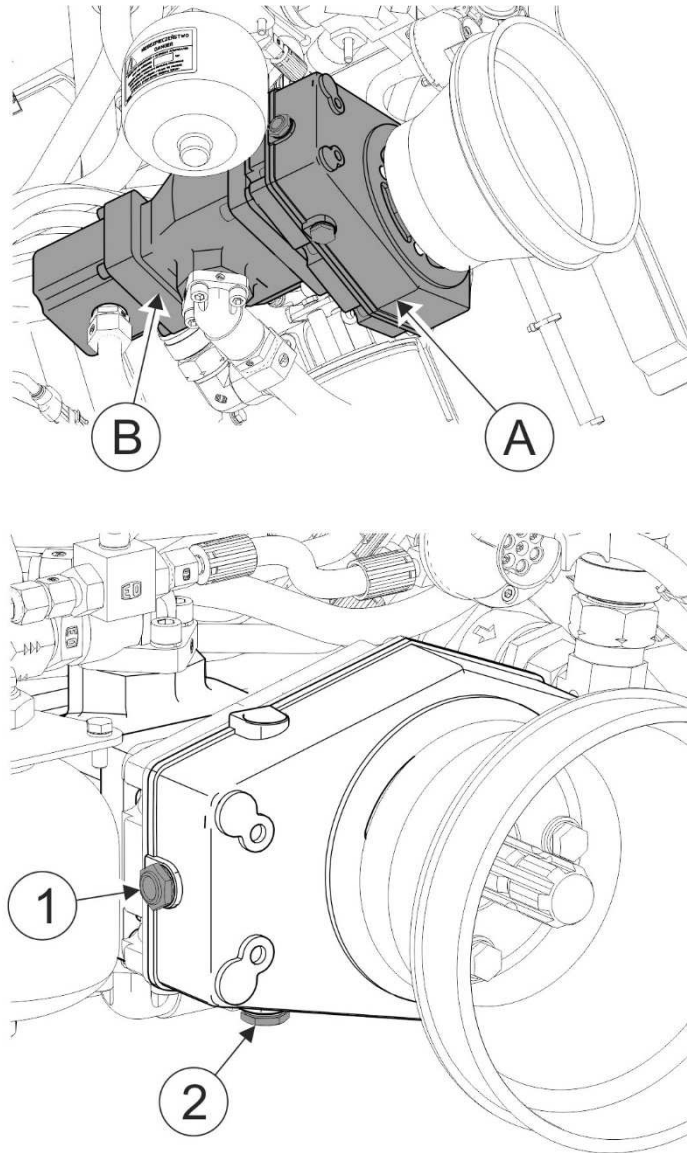

FIGURE 5.2 Multiplier gear box with hydraulic pump
Multiplier gear box (A) (FIGURE 5.2) transfers power from the carrying vehicle (agricultural tractor) PTO through a gear train to the hydraulic pumps assembly (B), which supply the multifunction arm hydraulic system and its operating head.